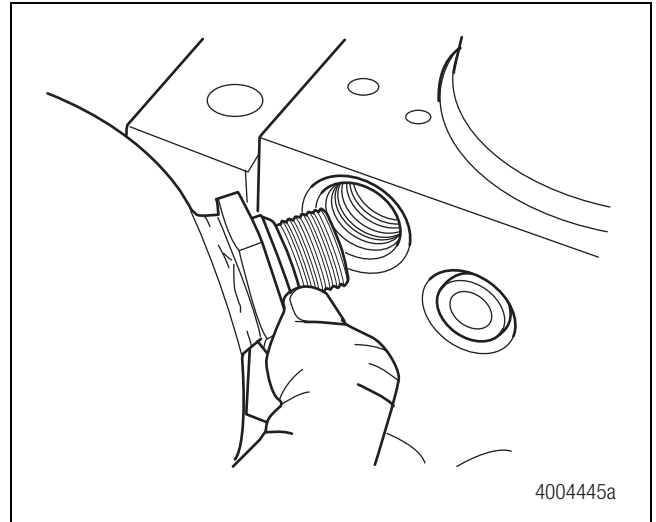

Figure 4.17
3. Place the new accumulator and O-ring into the counterbore. After positioning, use a torque wrench with a strap wrench attachment to tighten to 43.4-50 ft-lb (60-70 N•m). Do not overtighten. Figure 4.17.